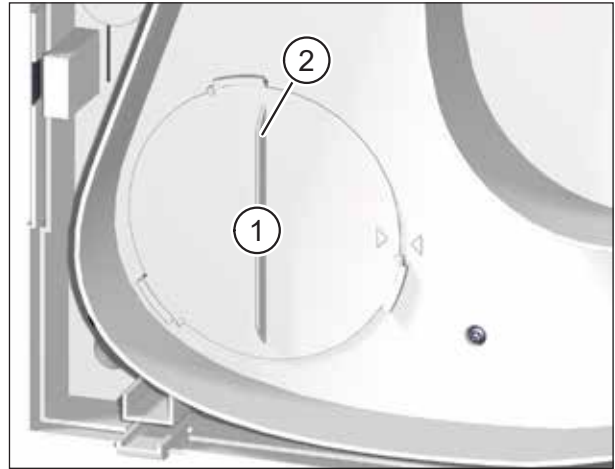

Fig. 17: Removing the outdoor air filter
- ▶ Turn the filter cover (item 1 in Fig. 17) using the hand grip (item 2 in Fig. 17) anti-clockwise until the filter cover is released from the retainers.
- ▶ Check the position of the filter cover. The hand grip must be vertical and the arrow on the filter cover must line up with the arrow for the locking position (see Fig. 17 on page 33).